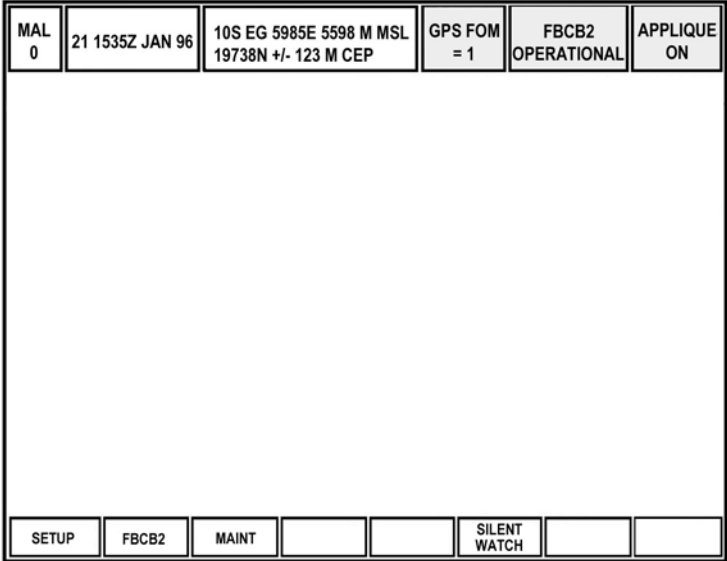

Figure 7. SETUP menu.
a. Select the setup menu (Figure 7).